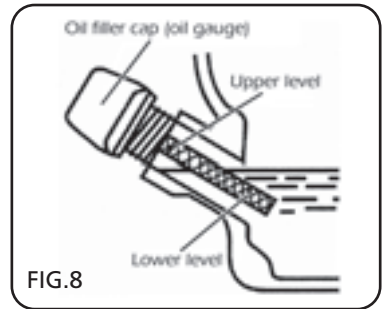

FIG.8
9.4 CHECKING THE ENGINE OIL - FIGS. 8 - 9